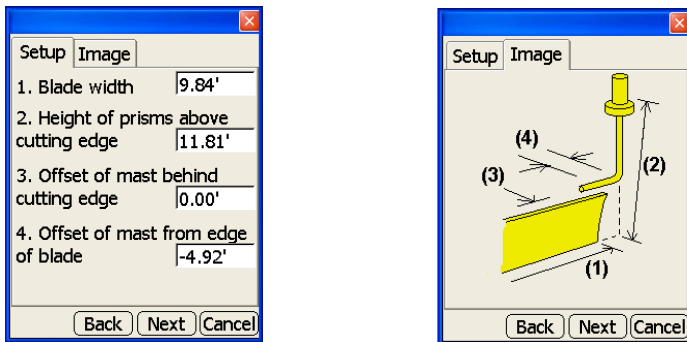

Figure 2-55. Sensor Information Dialog Box
4. Enter the sensor information using the same units of measure entered in the previous step, then press **Next** to continue (Figure 2-55 on page 2-39). These settings have a corresponding *Image* tab to illustrate the setup.